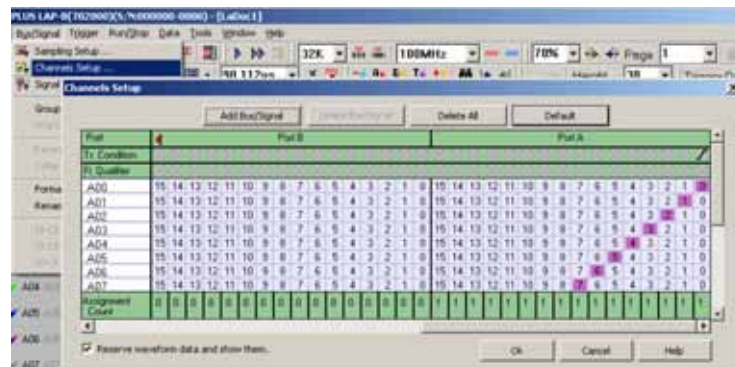

Fig 4-30 – Channels Setup
The dialog box is shown in Fig 4-30 will appear.
3. Default: Click **Default** to restore the dialog box of Channels Setup as shown in Fig 4-30.